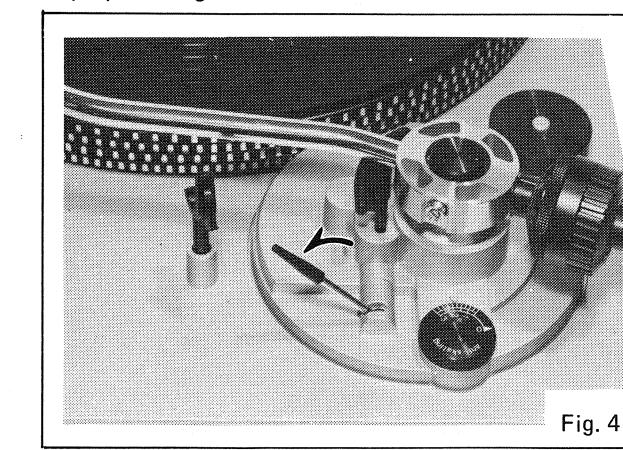

Fig. 4
7. Set the cueing lever to the down position. (See Fig. 4.)